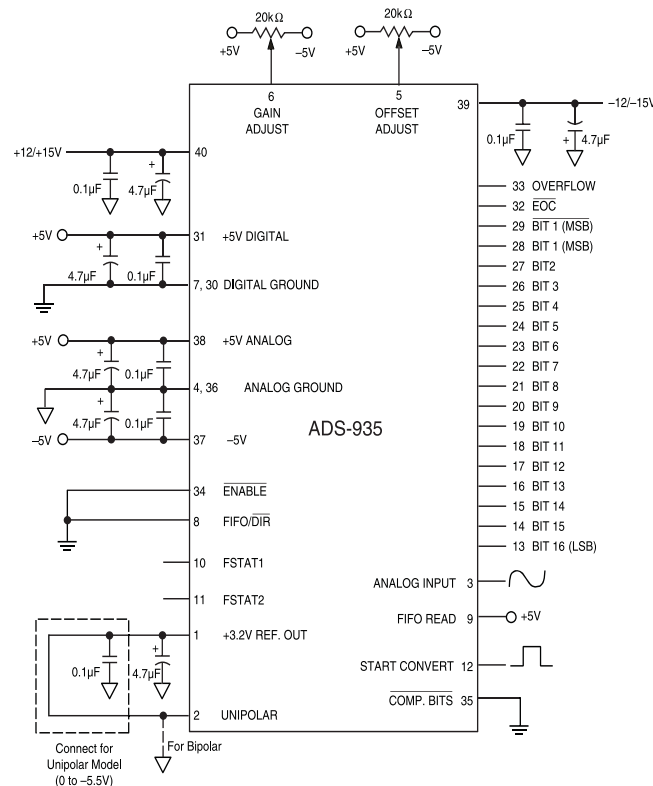

Figure 2. Bipolar Connection Diagram
2. The ADS-935 achieves its specified accuracies without the need for external calibration. If required, the device's small initial offset and gain errors can be reduced to zero using the adjustment circuitry shown in Figure 2. When using this circuitry, or any similar offset and gain calibration hardware, make adjustments following warmup. To avoid interaction, always adjust offset before gain. Tie pins 5 and 6 to ANALOG GROUND (pin 4) if not using offset and gain adjust circuits.
Connect the converter per Figure 2. Any offset/gain calibration procedures should not be implemented until the device is fully warmed up. To avoid interaction, adjust offset before gain. The ranges of adjustment for the circuits in Figure 2 are guaranteed to compensate for the ADS-935's initial accuracy errors and may not be able to compensate for additional system errors.